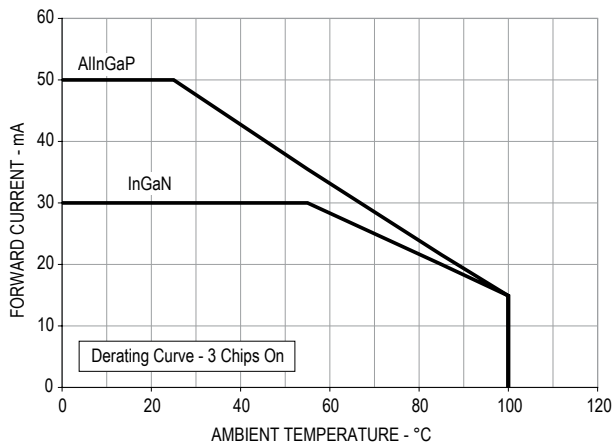

Figure 5a. Maximum forward current vs. ambient temperature. Derated based on $T_{JMAX} = 125^{\circ}C$, $R_{\theta JA} = 600^{\circ}C/W$ (3 chip on).
1. Derate Linearly as shown in Figure 5a & 5b.